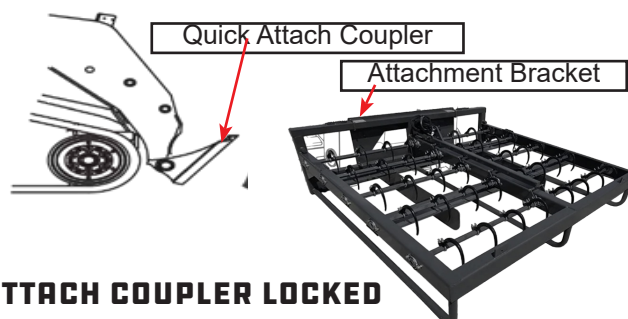

FIGURE 3.2A - QUICK ATTACH COUPLER LOCKED TO ATTACHMENT
2. Tilt the skid steer loader Quick Attach Coupler slightly down and drive forward to the rear of the hay accumulator until the top edge of the Quick Attach Coupler hooks under the lip of the attachment bracket. See figure 3.2a below.
3. Slightly tilt the skid steer Quick Attach Coupler upward until the attachment bracket is flat against the skid steer Quick Attach Coupler. See figure 3.2a below.